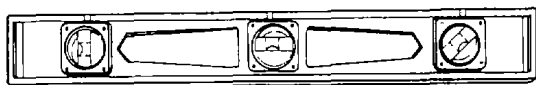

**Figure 3-2. Machinist's Level**
(2) *Machinist's level.* The machinist's level, shown in figure 3-2, has an extra large vial. This increases its accuracy and sensitivity. Some of these levels have grooved bottoms which fit over pipes and shafts. They are used in machine shops for leveling work and equipment.